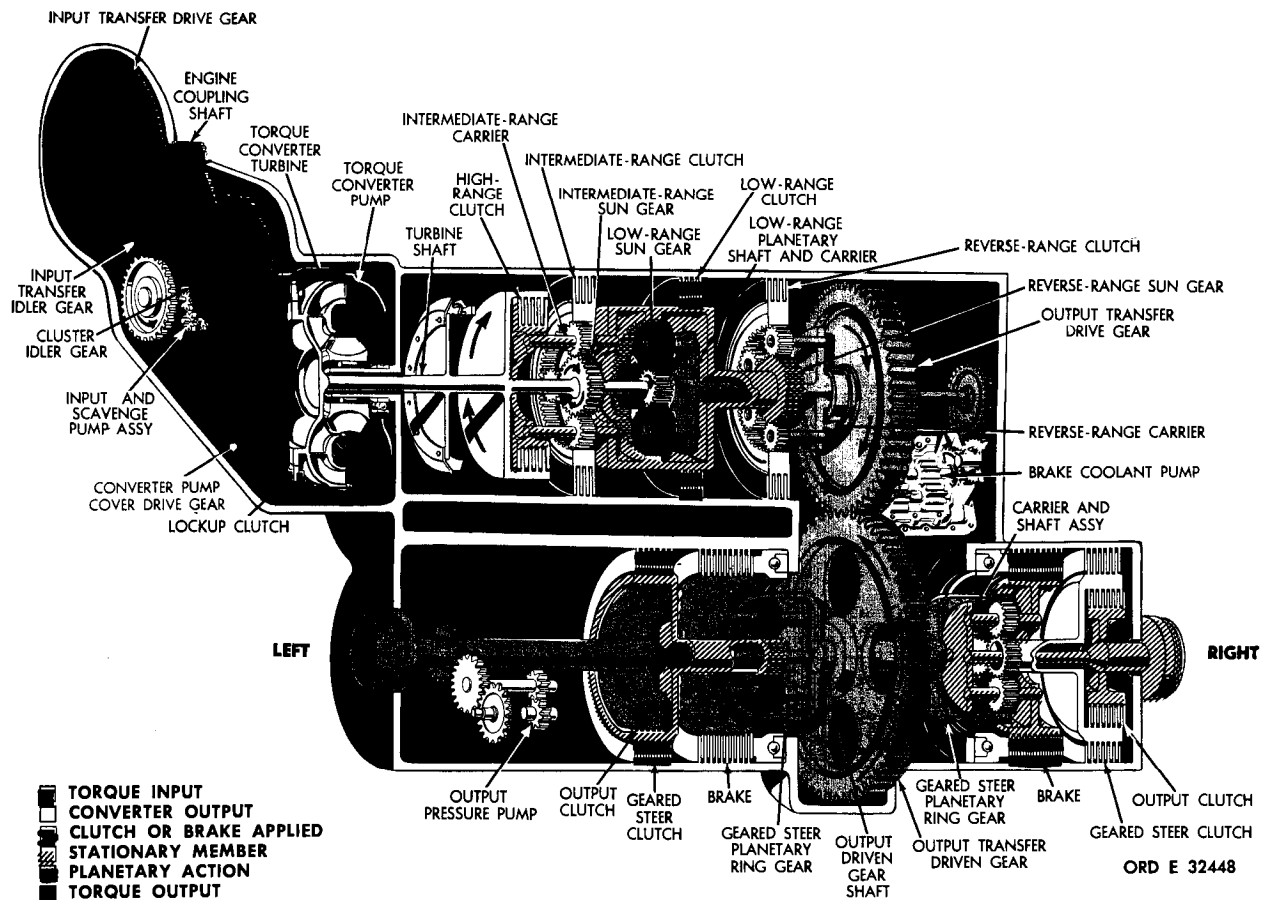

Figure 29. First-gear, full-right-steer torque path, converter operation
53. TORQUE PATH - FIRST GEAR, FULL-RIGHT STEER, CONVERTER OPERATION (fig. 29)